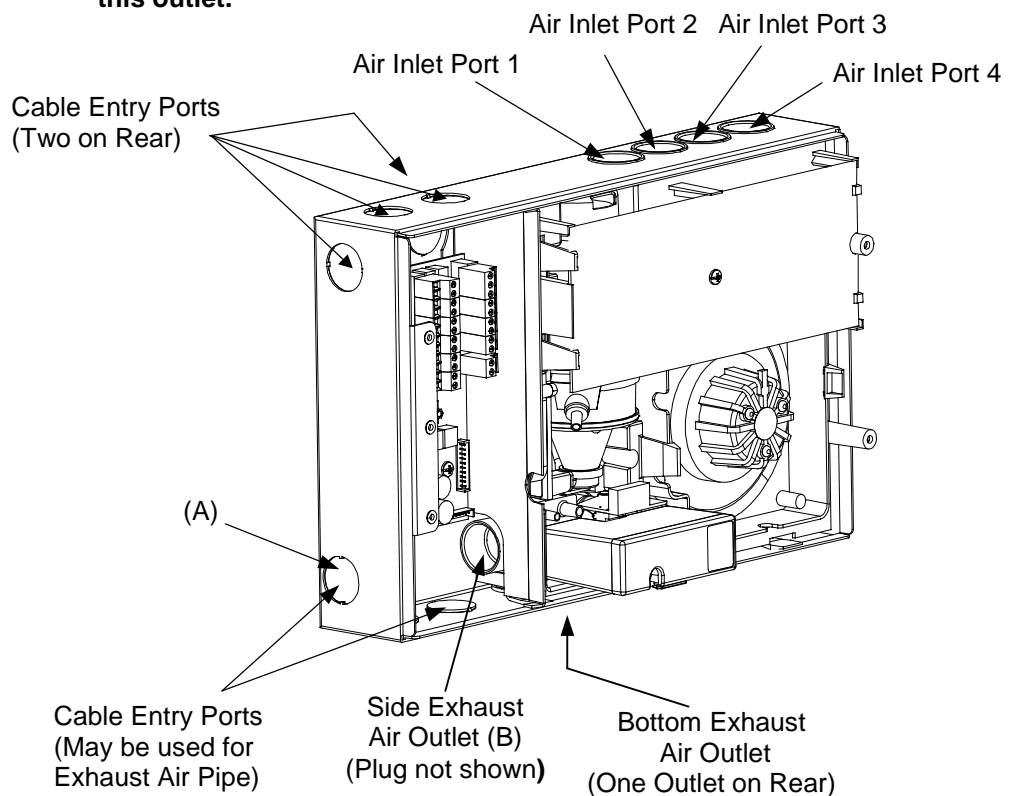

Figure 7 Exhaust Port Options and location of Cable Entry Ports
- (a) Determine the cable entry holes to be used. Refer to Figure 7.
There are three exhaust air outlet positions (Bottom, Rear and Left Side) located on the exhaust air manifold. Refer to Figure 7. Any of these outlets may be used to vent the air into the atmosphere or back to the fire zone. Select an appropriate exhaust outlet to suit the site condition and remove the appropriate plug with a screwdriver.